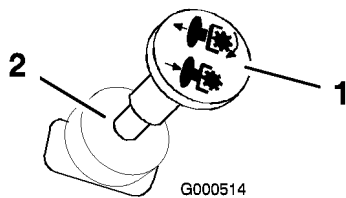

Figure 8
3. Disengage the blades by moving the blade control switch to Off (Figure 8).
2. Disengage the blades by moving the blade control switch to Off (Figure 8).